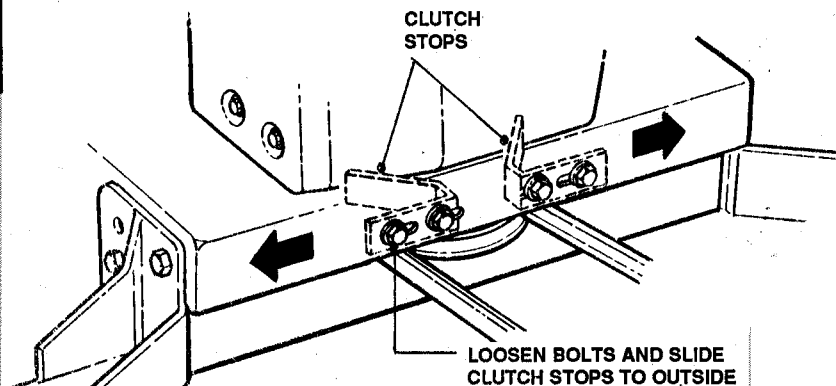

FIGURE 27
5. Loosen CLUTCH STOPS and slide away from clutch. See Figure 27.